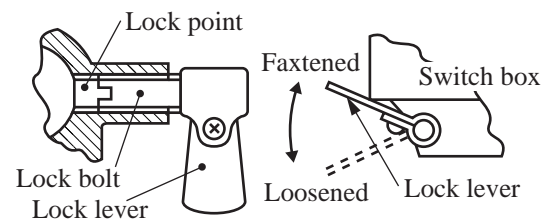

Figure 7
- d) To reposition the lock lever when the lock point at edge of the lock bolt has been worn out or disassembled, set the lever at a certain position where the lock can be released just before the lever has touched the switch box of the under case. (See the figure 7.)